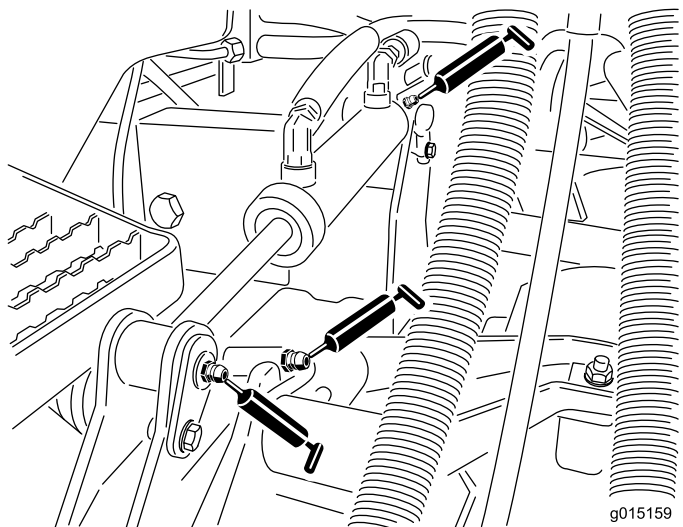

Figure 70
- Lift arm bushings (1 per cutting unit), refer to Figure 70
- Lift cylinder bushings (2 per cutting unit), refer to Figure 70